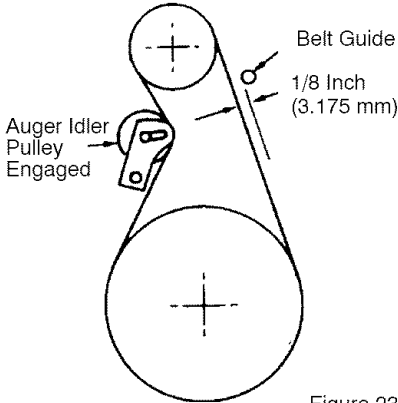

Figure 23
3. Measure the distance between the belt guide and belt. The distance should be 1/8 inch (3.175 mm) for guide. See Figure 23.